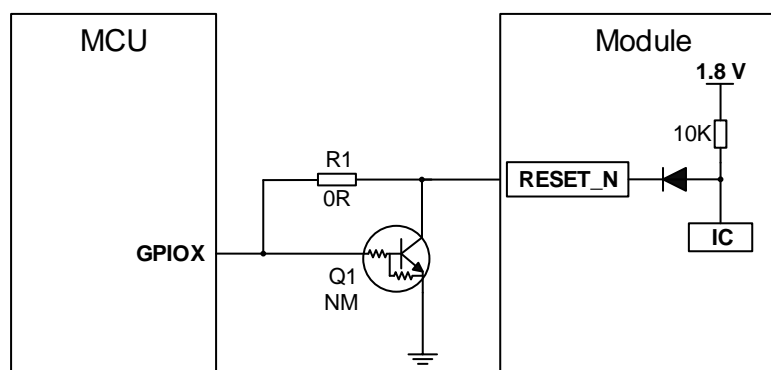

Figure 11: Reference Compatible Circuit for Module Reset
1. The Figure 11: Reference Compatible Circuit for Module Reset is the compatible circuit scheme of RESET_N. The corresponding circuit can be selected according to your demands (mounting either R1 or Q1).